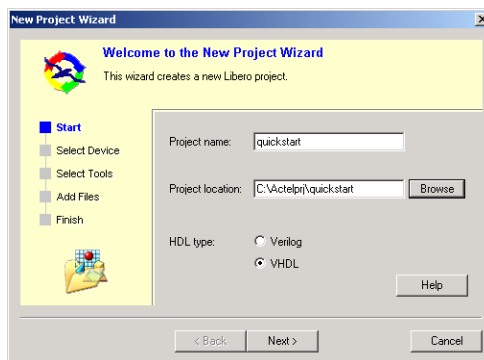

Figure 3-1. New Project Wizard in Libero IDE
2. From the File menu, select **New Project**. This displays the **New Project Wizard**, as shown in Figure 3-1.